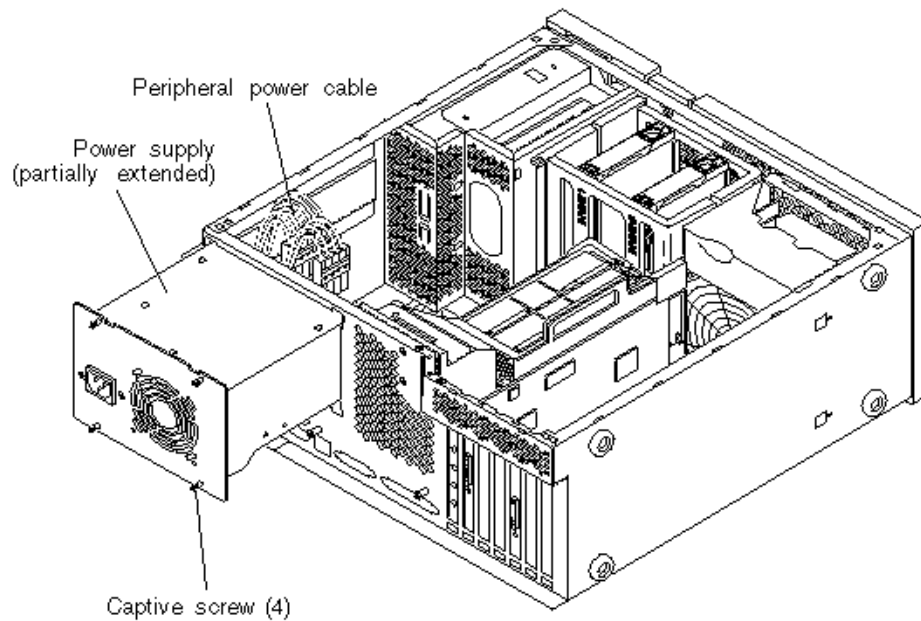
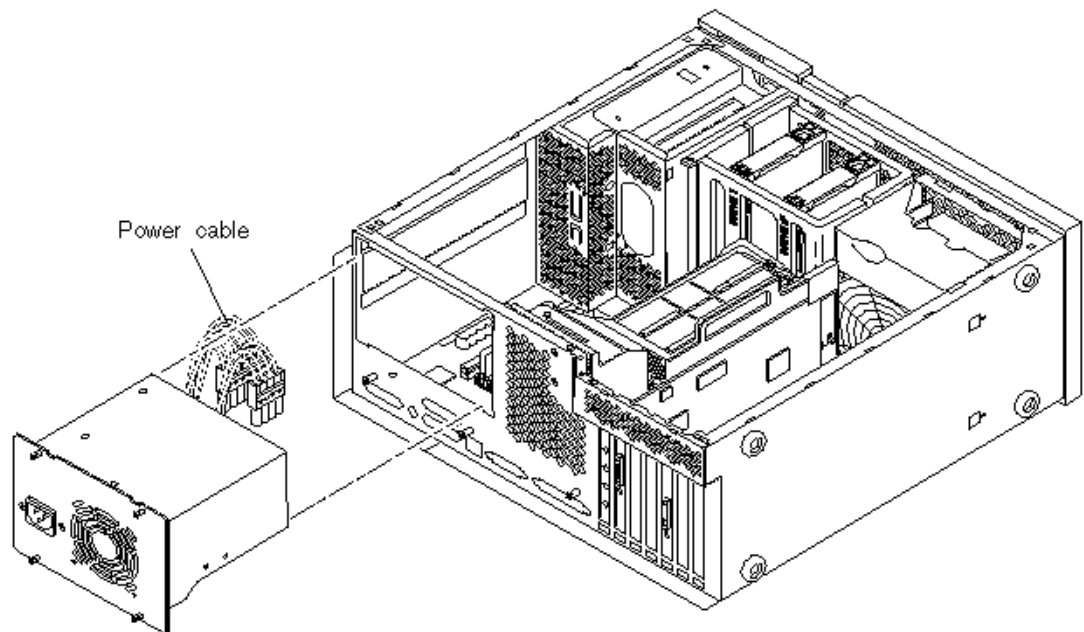

Figure 8-1 Removing and Replacing the Power Supply (Part 1 of 2)
Figure 8-2 Removing and Replacing the Power Supply (Part 2 of 2)
4. Remove the power supply as follows (Figure 8-1 and Figure 8-2):
1. **Replace the power supply as follows (Figure 8-1 and Figure 8-2):**